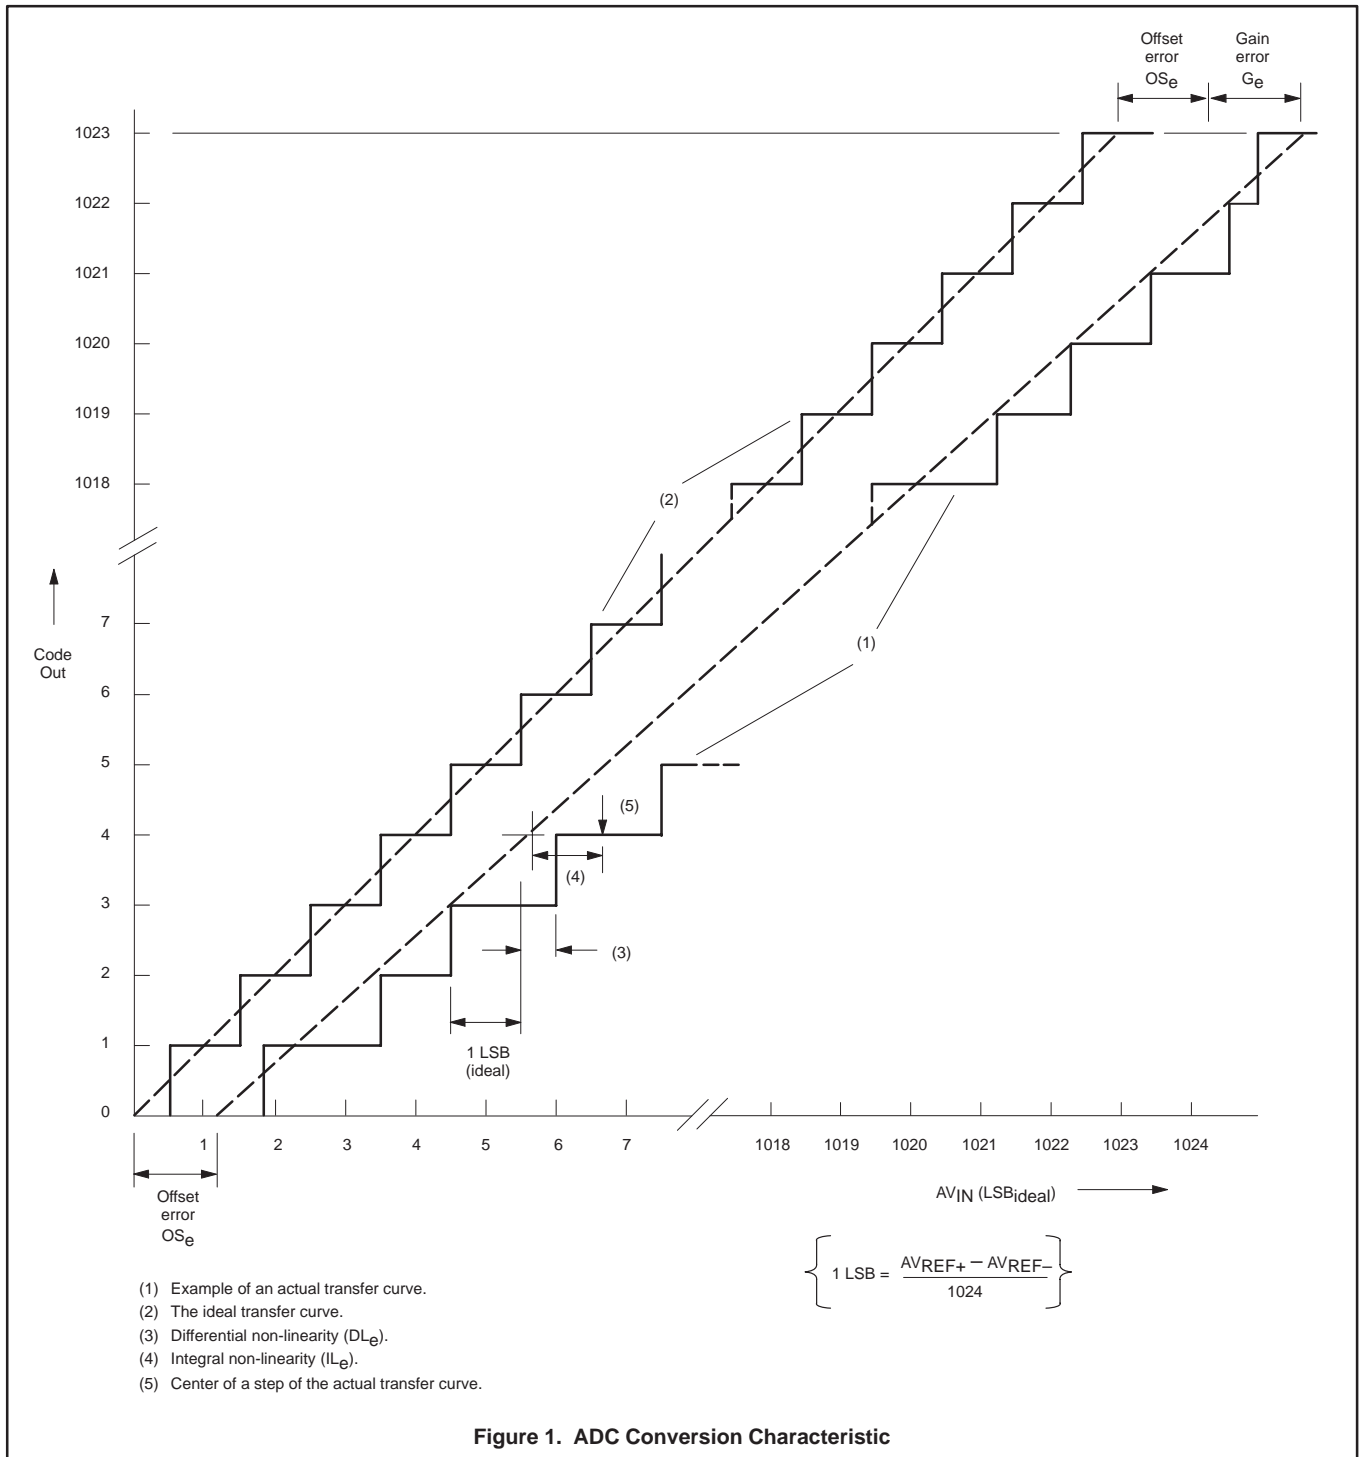

Figure 1. ADC Conversion Characteristic
- The differential non-linearity ( $DL_e$ ) is the difference between the actual step width and the ideal step width. (See Figure 1.)
- 13. The integral non-linearity ( $IL_{\theta}$ ) is the peak difference between the center of the steps of the actual and the ideal transfer curve after appropriate adjustment of gain and offset error. (See Figure 1.)
- 14. The offset error ( $OS_{\theta}$ ) is the absolute difference between the straight line which fits the actual transfer curve (after removing gain error), and a straight line which fits the ideal transfer curve. (See Figure 1.)
- 15. The gain error ( $G_{\theta}$ ) is the relative difference in percent between the straight line fitting the actual transfer curve (after removing offset error), and the straight line which fits the ideal transfer curve. (See Figure 1.)